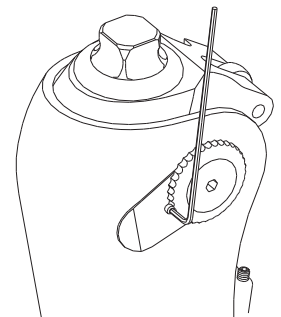

Fig.6
2. Remove the locking screw using a hexagonal wrench (1.5mm). (See Figure 6.)